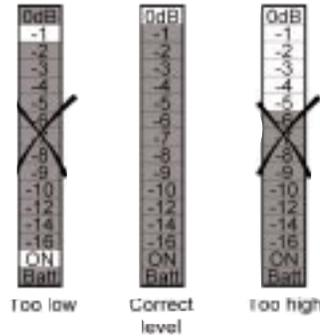

Figure 5. Adjusting the subwoofer levels for a 0dB peak
Press **Play ▶**. As Track 3 plays, watch the RSLM carefully. Watch for peak readings. The peak reading may be no more than a brief flash. Readjust the subwoofer's **Level control** ③ until the peak level observed is 0dB without triggering the over-range indication. See Figure 5.